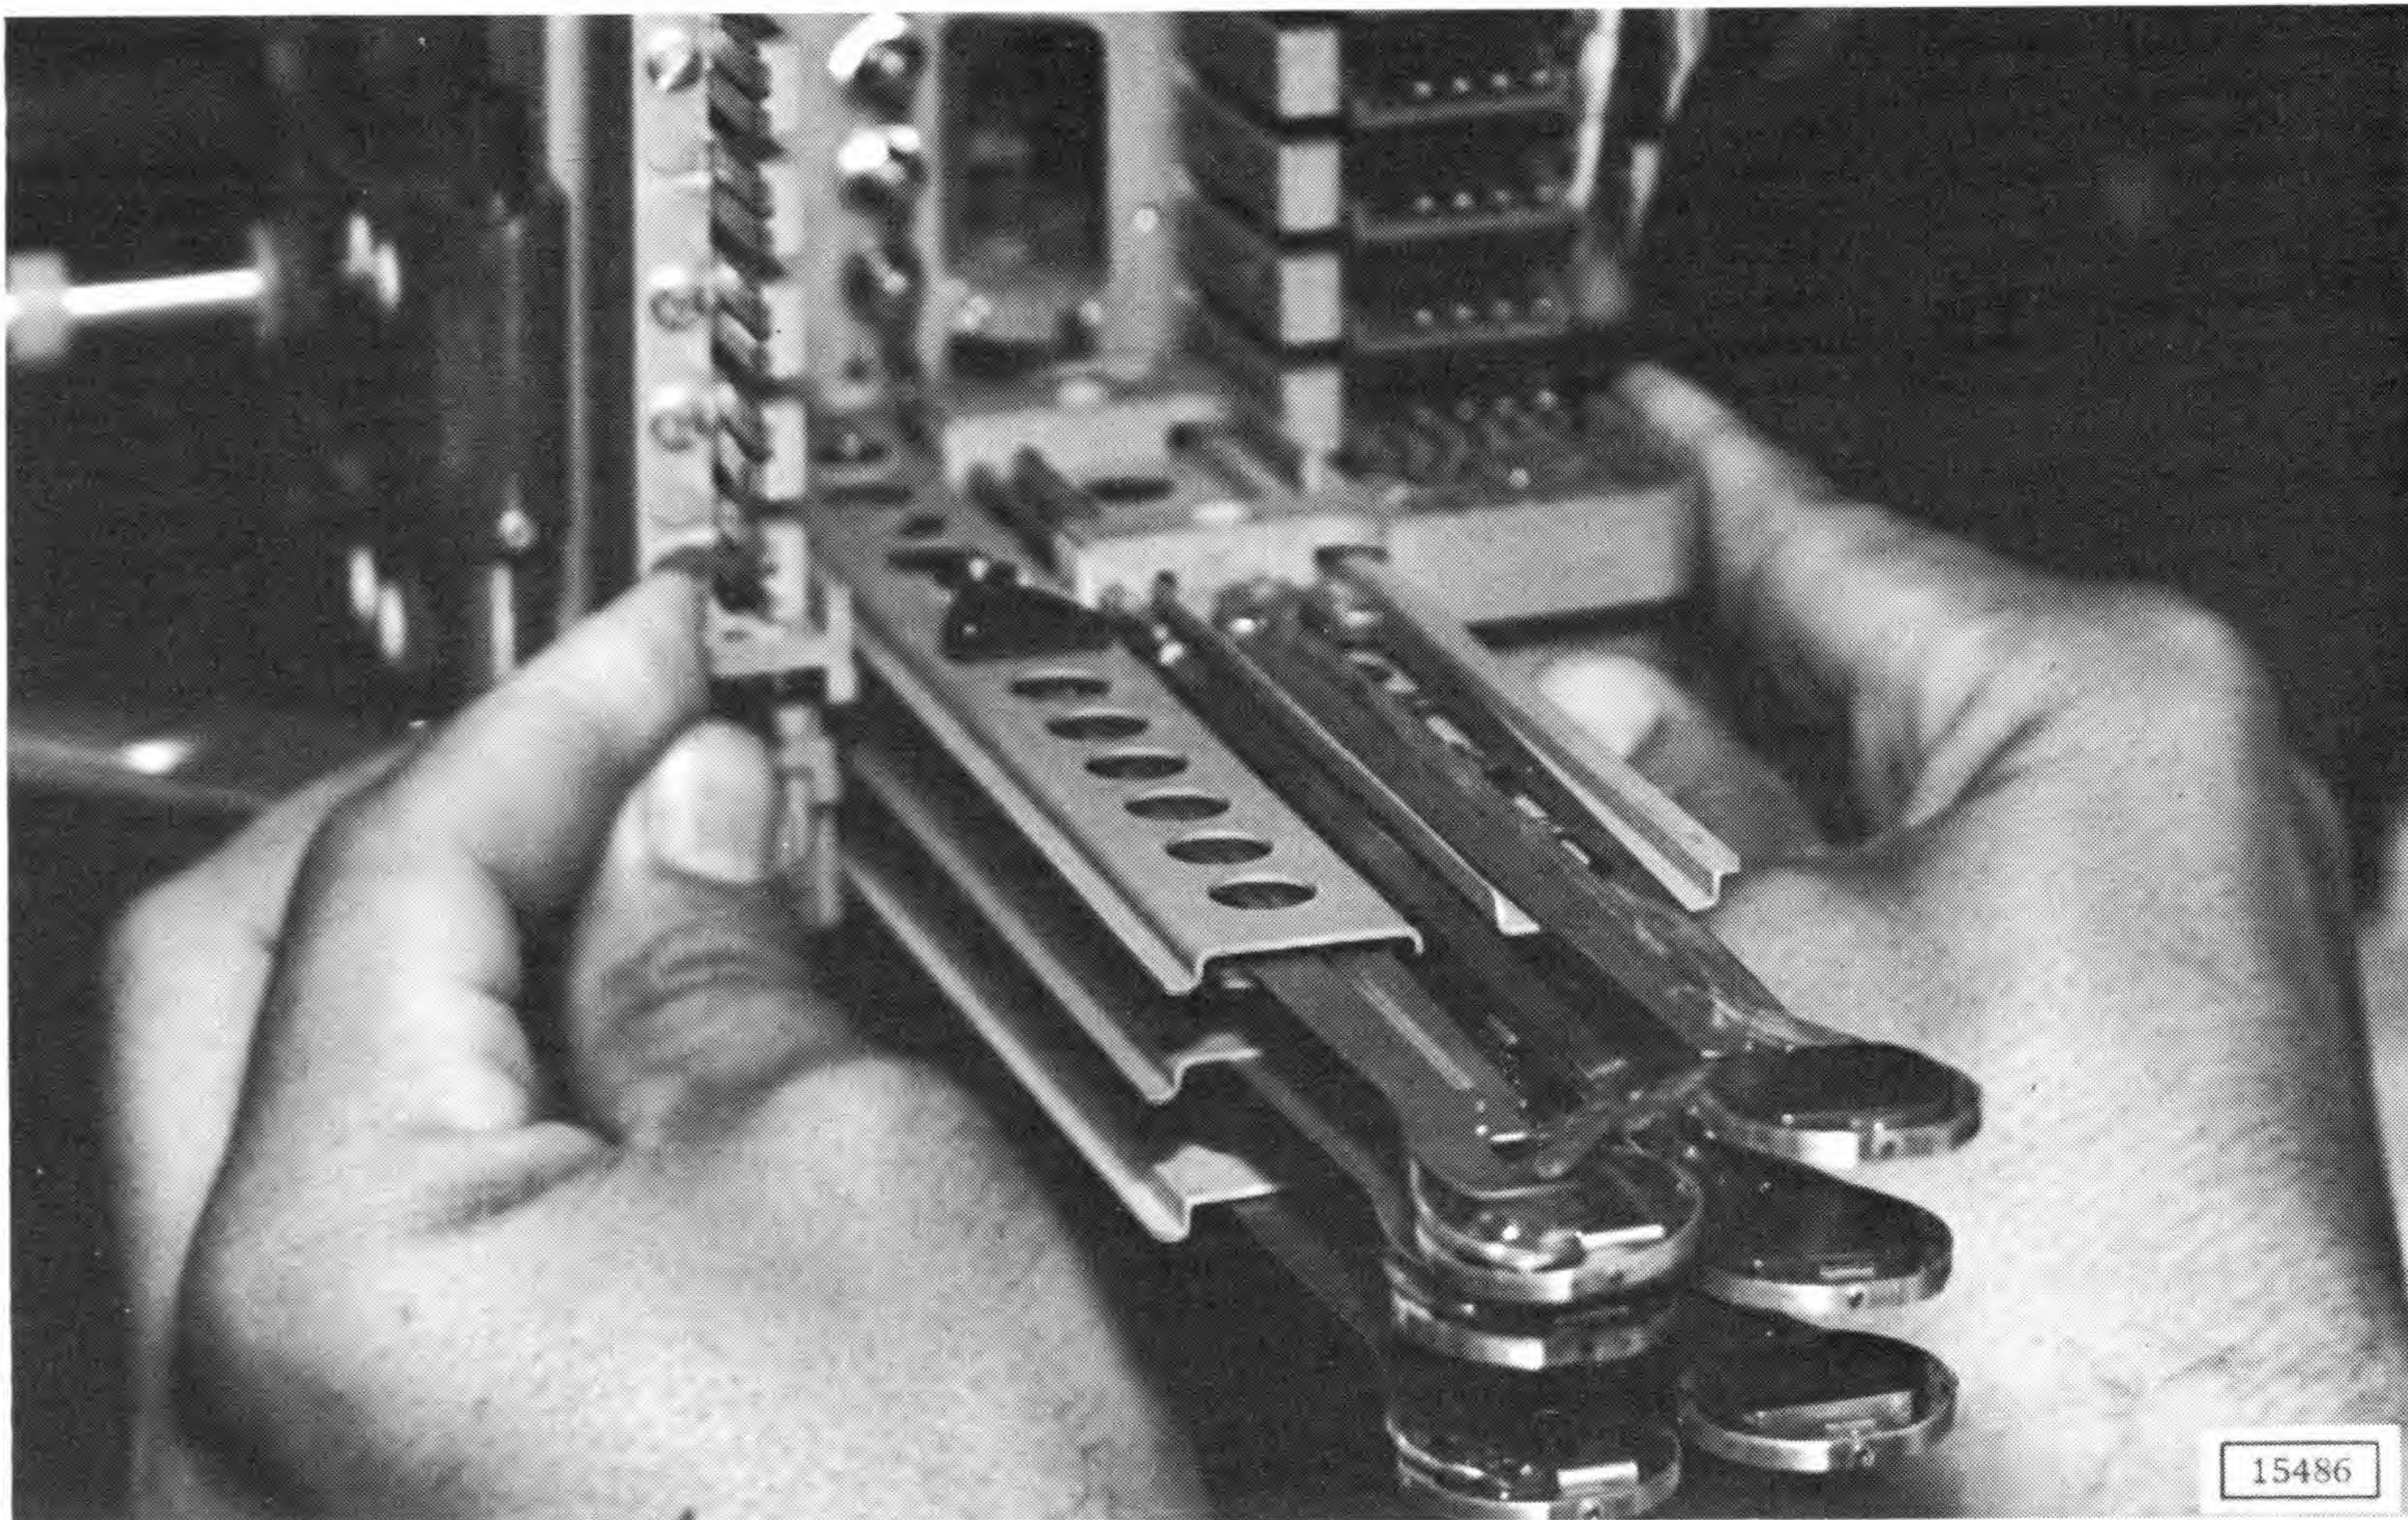

Figure 2-26. Drawer Removal
4. Remove drawer by applying a clamping force with index fingers and pushing on adjacent drawers with thumbs (Figure 2-26). Drawer assemblies must be handled with care. Never handle assembly by stiffeners, arms, or diode boards.